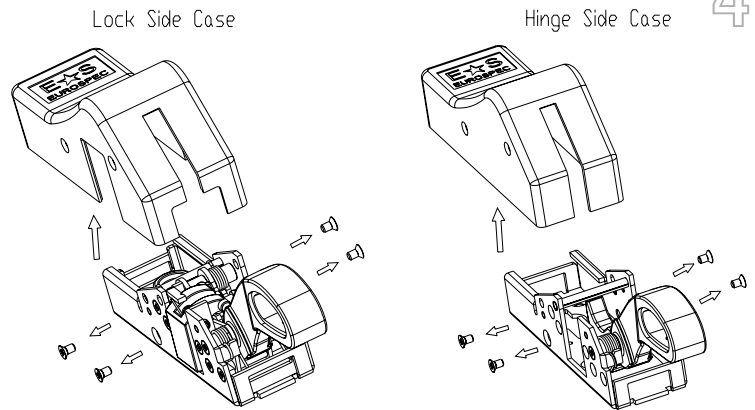

Fig 4.1
- 1) Remove 8 cover fixing screws from main cases (Items 1A and 1B) (See Fig 4.1)